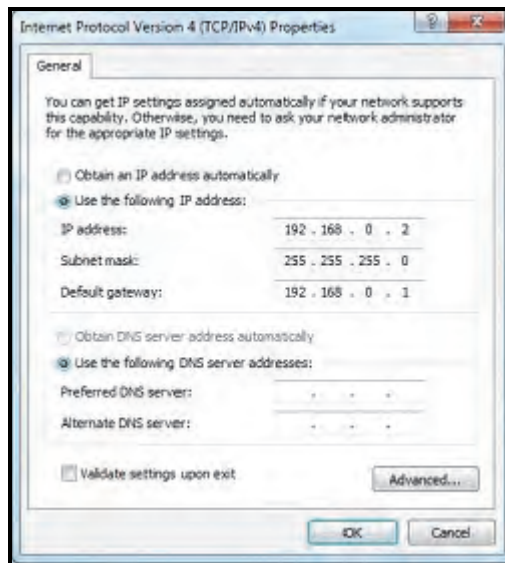

Figure 1-3. Internet Protocol (TCP/IP) Dialog Box
5. Select **Use the following IP address**. Type an IP address that is inside the range specified by the satellite router's IP address and subnet mask. See Figure 1-3.